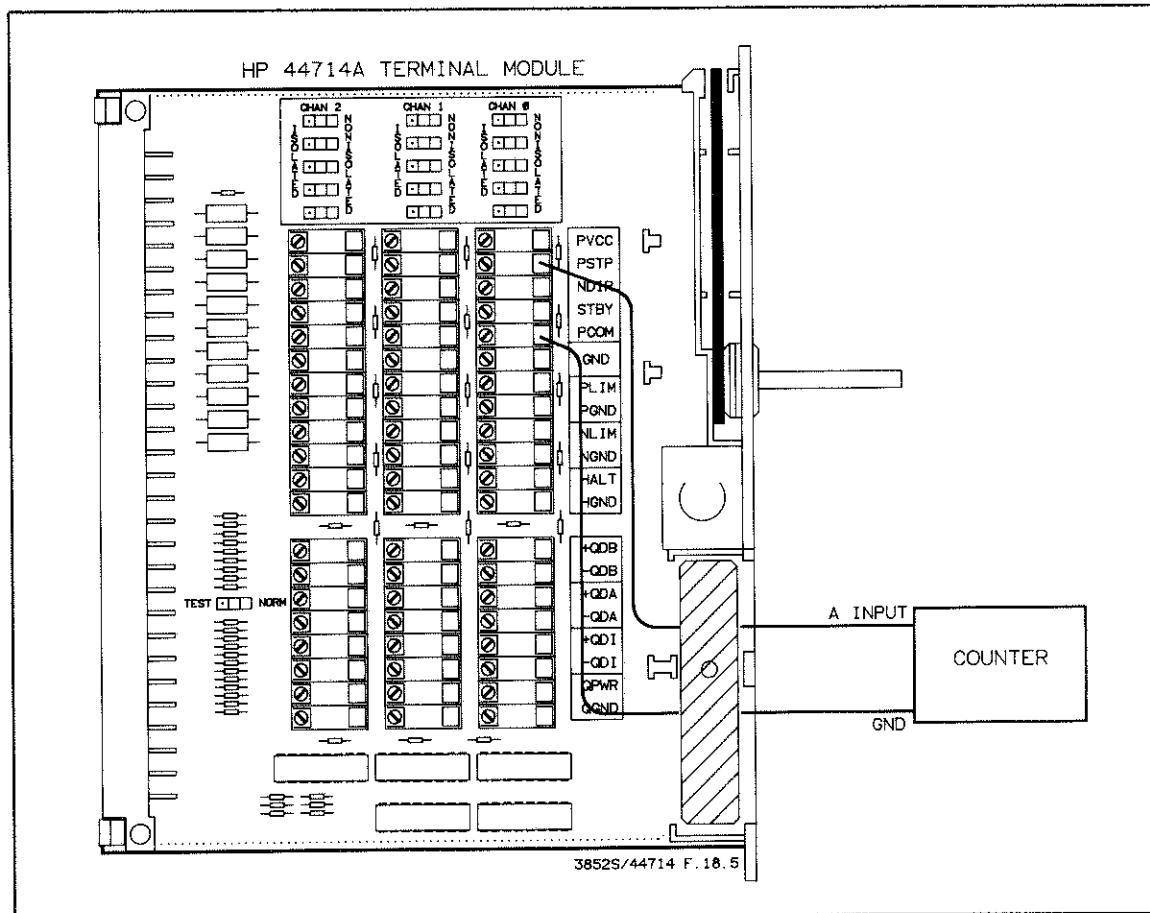

Figure 18-5 Frequency and Pulse Accuracy Test Connection
1. Place the NORM/TEST jumper into the norm position, as shown in Figure 18-5.
3. Refer To Figure 18-5. Connect the High input (A input if using the recommended counter) of a counter to the PSTP terminal that is for channel 0 and the Low (Gnd) input to the PCOM terminal on the terminal module.